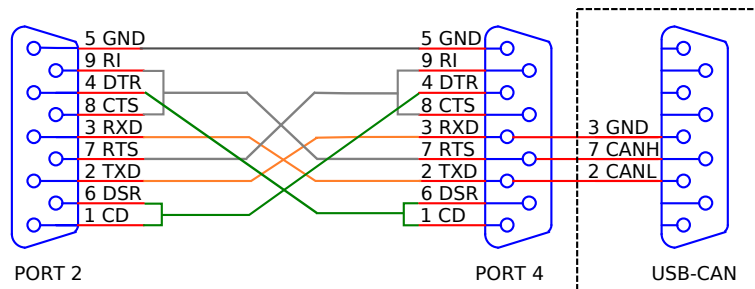

Figure 33: Serial Test Cable Wiring
To test the serial port you will need a special null-modem cable. Following pinout will be used (see Table 10 and Figure 33 without USB-CAN connector):
- modified null-modem cable to connect PORT2, PORT4 and USB-CAN together (see Figure 33). Ports 1 and 3 will be connected with the same cable but without connector for USB-CAN